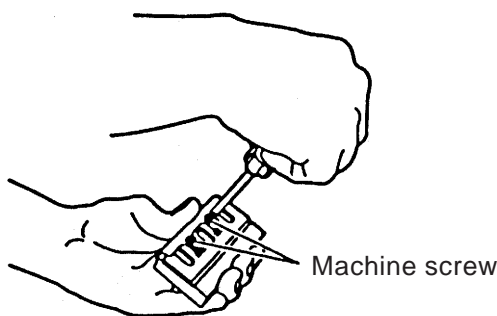

Fig. 1
A. Resharpenable type (for Asia, etc.) (See Figs. 1 and 2.)
- (1) Loosen the two machine screws holding the blade and set plate (A).
- (2) Make the bent surface of set plate (A) flush with wall surface (b) after contacting the blade tip with wall surface (a) of set gauge. Then, tighten them with the two screws.
B. Double edged type (for Europe, etc.) (See Figs. 1 and 3.)
- (1) Loosen the two machine screws holding the blade, set plate (A) and set plate (B).
- (2) Adjust the planer blade height in the same procedure as in above.